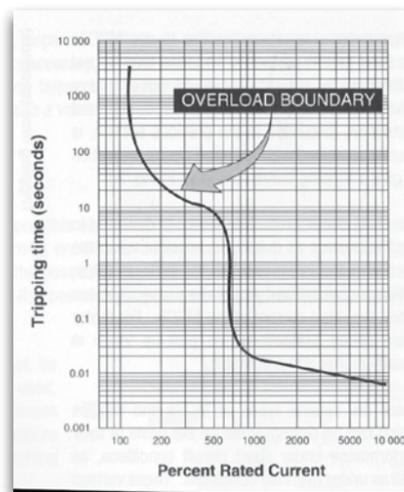

Figure 2c
A typical time/current curve showing the boundary between the normal and overloaded condition of an item of electrical equipment is shown in Fig 2c.
- It should be able to detect and trip the circuit breaker for those overload conditions which, by virtue of the current magnitude or duration, would lead to damage of the insulation of the protected equipment. Obviously, the characteristic of the ideal protection device should respond to the same thermal overload condition, I^2t , but should be slightly below the overload boundary, as shown in Fig. 2c.